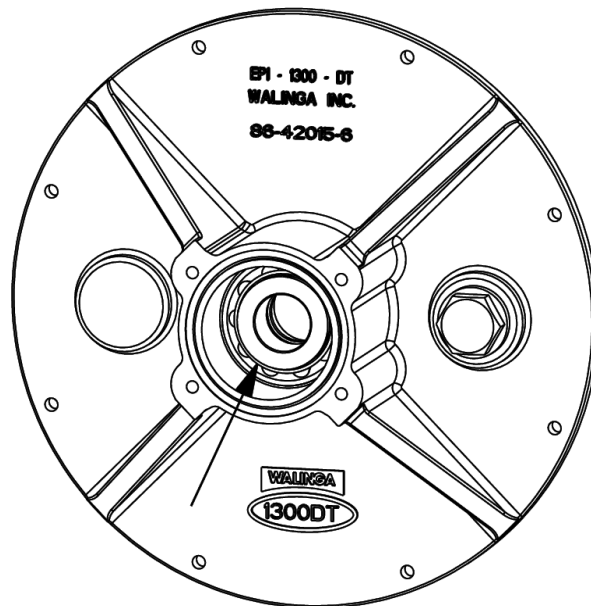

Figure 7-9: Removal of bearing cone assembly
18. Reinstall the bearing cone assembly into the bearing cup, reference **Figure 7-9**. Use care and caution when using tools to prevent damage to the bearing cup and cone.
- d. Remove the bearing cone assembly. If necessary, remove the bearing cup. Reference **Figure 7-9**.